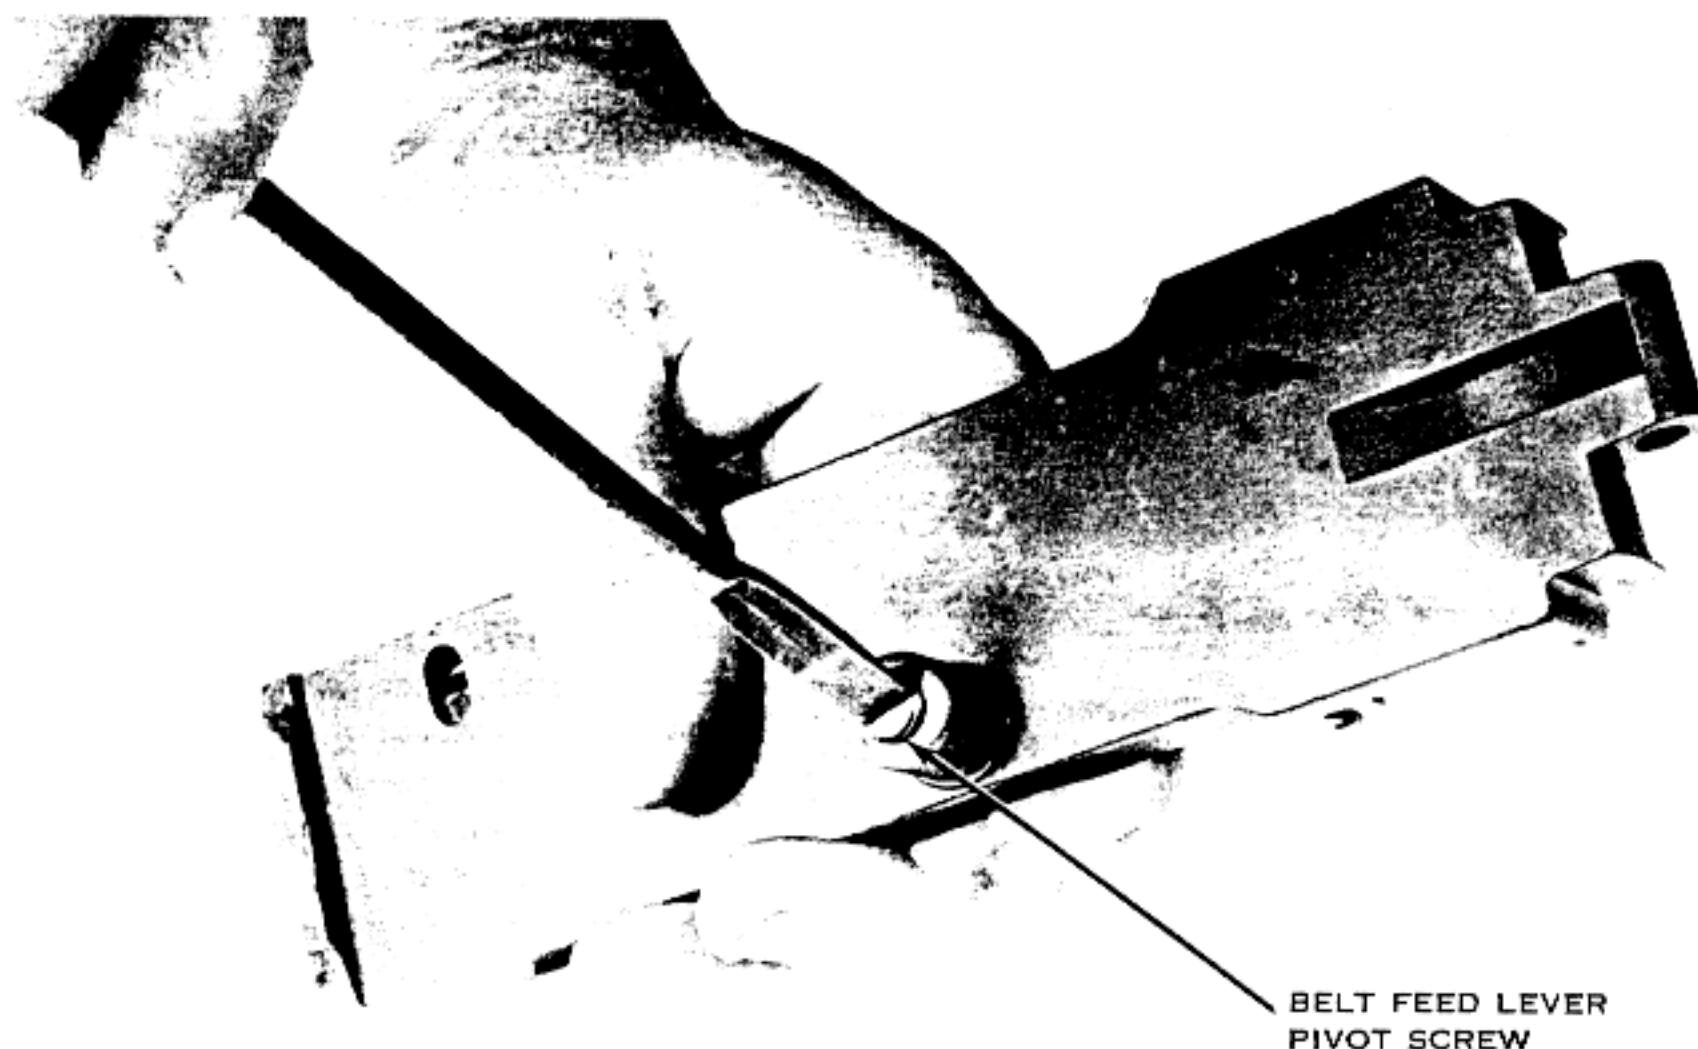

Figure 45. Removing belt feed lever pivot screw.
**a. Belt Feed Lever Pivot.** Unscrew the belt feed lever pivot screw. Remove the screw, shakeproof lockwasher, and belt feed lever pivot (fig. 45).